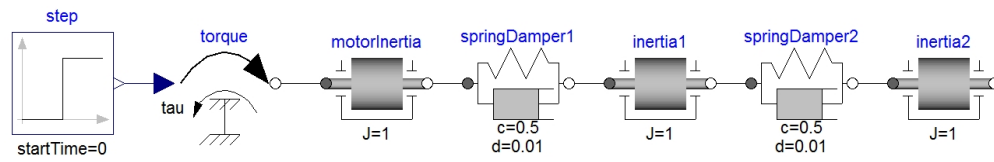

Figure 7: Dymola model of motor with two elastic loads
- (a) Start Dymola. Choose 'File' → 'New' → 'Model'. Enter the name of the model (for example 'MotorWithElasticLoads'). Let the rest be empty, and press 'OK', and then 'Accept' at the warning that will appear2. In the pane at the left hand side, press/unfold 'Modelica' to open the Modelica Standard Library. Open 'Mechanics' → 'Rotational'. Drag and drop 'Sources' → 'Torque', 'Components' → 'Inertia' and 'Components' → 'SpringDamper' to put together the motor with two elastic loads as shown in Figure 7. Use a 'Blocks' → 'Sources' → 'Step' to attach a step input to the torque.
Press the 'Simulation' tab (choose "Simulation view") at the bottom, choose 'Simulation' → 'Simulate' in the menu. Plot the rotational speed of the last load (by navigating in the left hand side pane, the symbol  $w$  is used for rotational speed), and compare to the previous problem. Also comment on the amount of information in the graphical view of the model (Figure 7) with the Simulink version of the overall model.